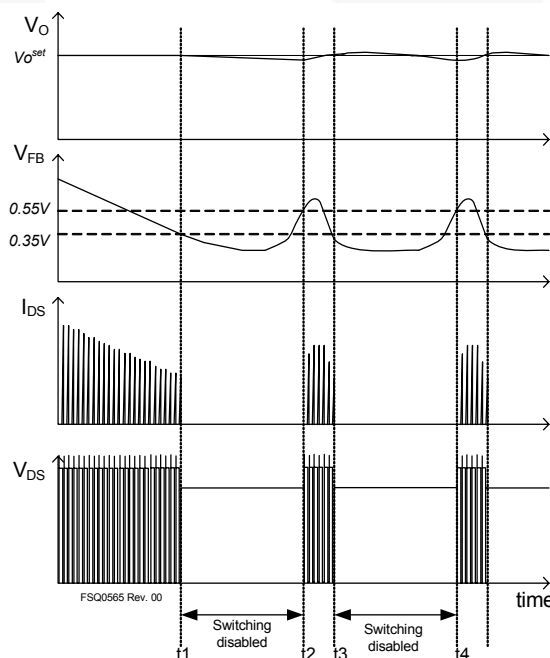

Figure 34. Waveforms of Burst Operation
6. Burst Operation: To minimize power dissipation in standby mode, the FPS enters burst-mode operation. As the load decreases, the feedback voltage decreases. As shown in Figure 34, the device automatically enters burst-mode when the feedback voltage drops below V_{BURL} (350mV). At this point, switching stops and the output voltages start to drop at a rate dependent on standby current load. This causes the feedback voltage to rise. Once it passes V_{BURH} (550mV), switching resumes. The feedback voltage then falls and the process repeats. Burst-mode operation alternately enables and disables switching of the power SenseFET, thereby reducing switching loss in standby mode.